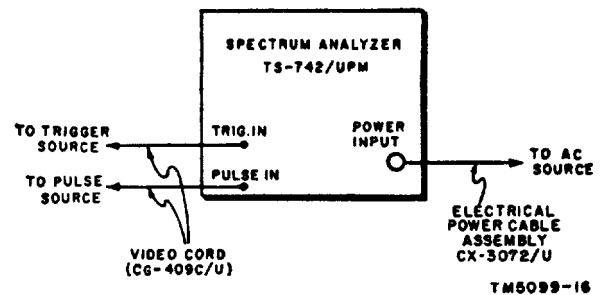

Figure 14. Interconnection diagram, spectrum analyzer used as synchroscope.
- (1) Apply the trigger pulse to the TRIG. IN receptacle as shown in figure 14. The trigger should be of positive polarity, 30volt peak, with a pulse width of .5 to 10  $\mu$ sec and a pulse repetition rate not to exceed 2,500 pps.
- (2) Turn the function switch to the TRIG. SWP. 150  $\mu$ SEC. or TRIG SWP. 5  $\mu$ SEC. position, depending on the sweep time desired.
- (3) Throw the POWER switch to the ON position. The frequency dial lamp, pilot light, and attenuator dial light should go on.
- (4) After sufficient warm up, a horizontal trace should appear. Adjust the TRIG SWP. V
- a. Apply the pulse to be inspected to the PULSE IN receptacle (fig. 14).